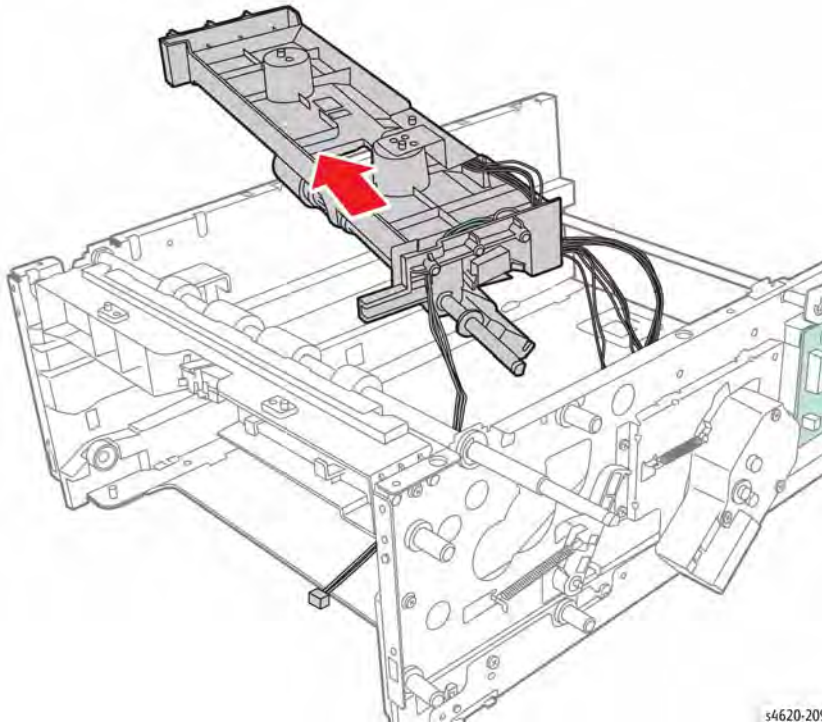

Figure 5 Remove the Feed Assembly
15. Lift the left side and lower the right side to remove the Feed Assembly from the chassis, Figure 5.